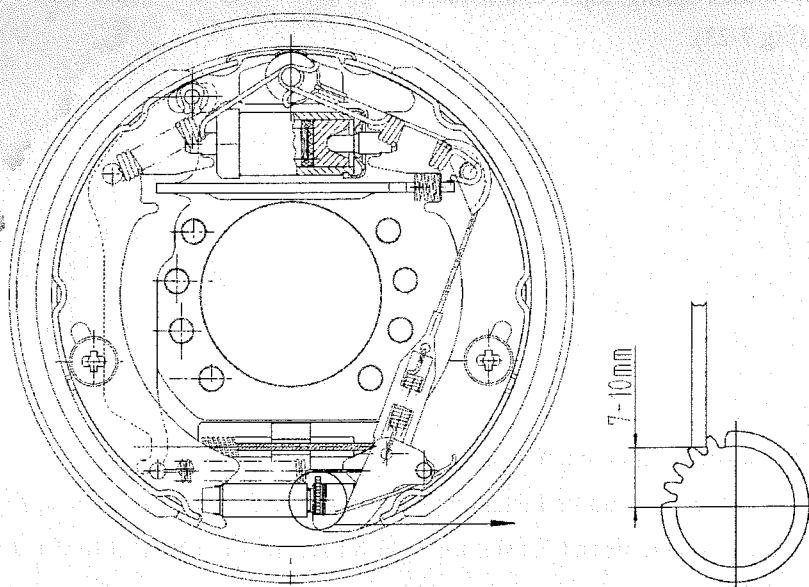
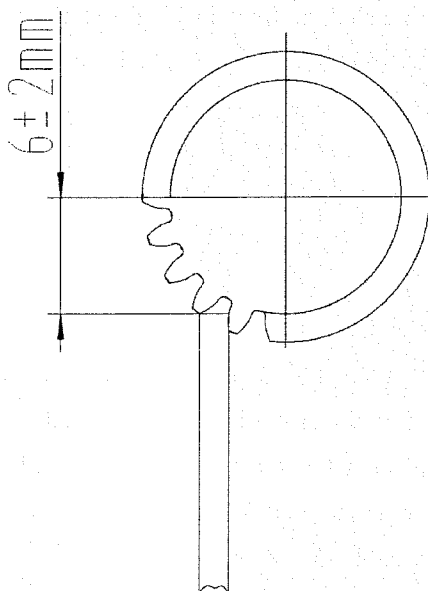

Fig 7-24
Fig 7-25
(2) In the case when adjusting lever is pulled, and the adjuster cannot do the abovementioned action, the following items shall be examined:
b) Examine whether or not the relationship in arrangement between adjusting lever and adjusting gear is correct. Refer to Fig 7-24 (2-2.5t), Fig 7-25 (3-3.5t), and replace the parts if not satisfactory. In addition, examine whether or not lever and gear are in contact with each other.